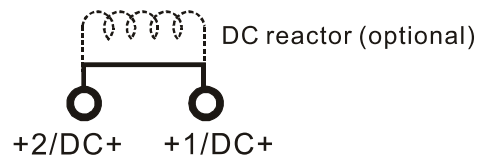

Figure 5-2
- Use the terminals, as shown in Figure 5-2, to connect a DC reactor to improve the power factor. A jumper is connected to these terminals at the factory. Remove that jumper before connecting to a DC reactor.